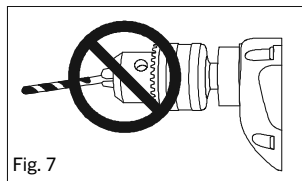

Fig. 7
4. Insert the chuck key (3) into one of the three holes in the chuck body. Rotate the chuck key clockwise until the drill bit is held firmly in place by the chuck jaws. **NOTE:** Do not use a wrench on the chuck key. You may damage the key or the chuck.
**⚠️ WARNING:** Do not insert the drill bit into the chuck and tighten as shown in Fig. 7. The drill bit **MUST** be properly inserted with all three chuck jaws holding the bit centered in the chuck. Failure to properly insert the drill bit could cause the drill bit to be thrown from the chuck resulting in possible serious injury or damage to the chuck.